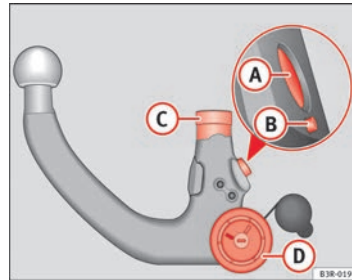

Fig. 156 Removable towing bracket: Ball joint
- Check the locking pin (A), release pin (B), shaft section (C) and knob (D) ⇒ Fig. 156 on the ball joint to make sure they are clean and undamaged. ▶